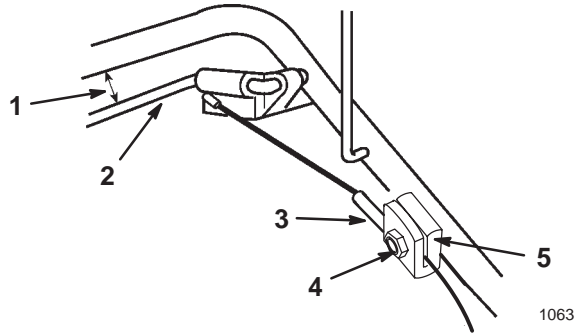

Figure 28
1. Loosen the nut on the cable support (Fig. 28).
2. Hold the self-propel bail 1 to 1½ in. (25 to 38 mm) from the handle (Fig. 28).